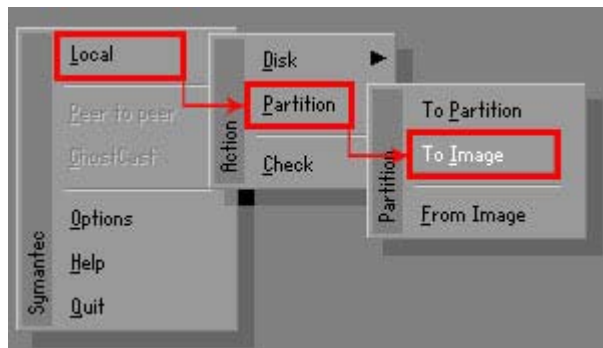

Figure A-13: Symantec Ghost Path
Step 4: Use mouse to navigate to the option shown below (**Figure A-13**).